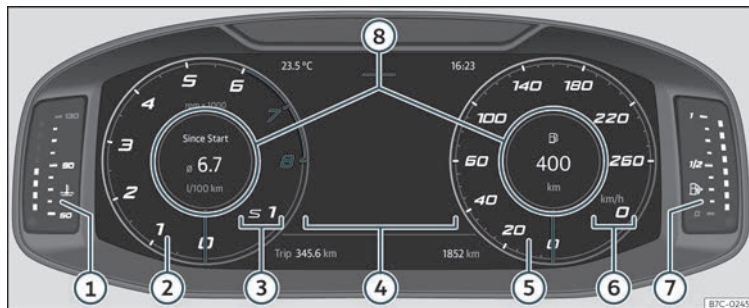

Fig. 55 Digital Cockpit on the instrument panel (classic view).
In *Classic View* and *Semicircular watches* it is possible to customise the information displayed under **Information Profiles** »» Fig. 55 ⑧.
The revolutions per minute and speedometer needles appear along the entire length »» Fig. 55.